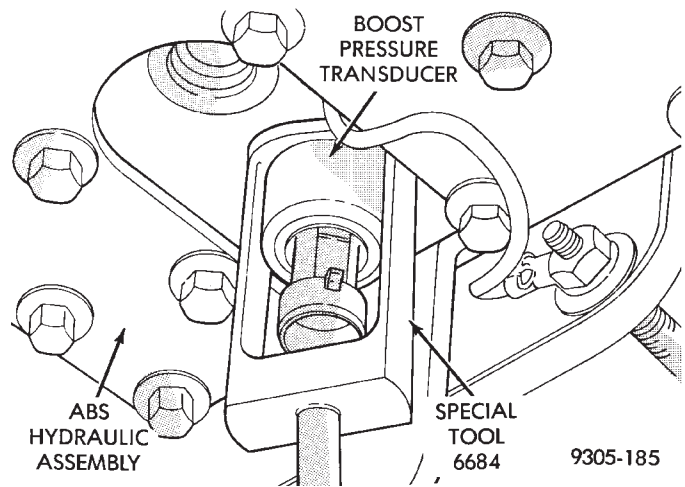

Fig. 17 Remove And Install Boost Pressure Transducer
(5) Remove boost pressure transducer from hydraulic assembly, from under vehicle using a long extension and Socket, Special Tool 6684 (Fig. 17).
(1) Install boost pressure transducer (Fig. 17) into hydraulic assembly by hand, until O-ring is fully seated into hydraulic assembly. Then torque boost pressure transducer, into hydraulic assembly, using Socket, Special Tool 6684, to 12 N•m (106 in. lbs.).